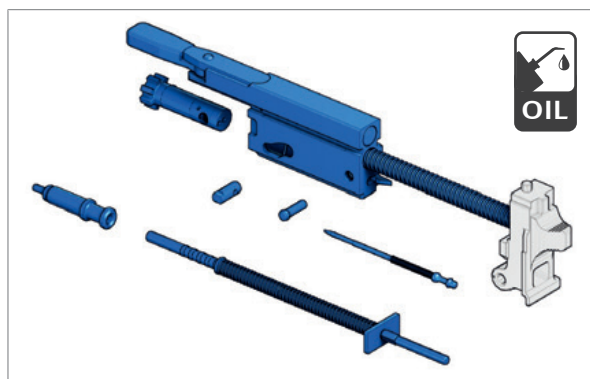

Fig. 117: Lubrication points of functional elements
2. Lubricate lubrication points of bolt group, recoil spring, rod and gas piston (Fig. 117).